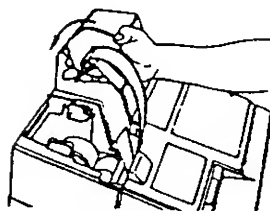

Fig. 10
7. Wind up the paper end on the Journal Winding Reel two or three times as shown in Fig. 10.